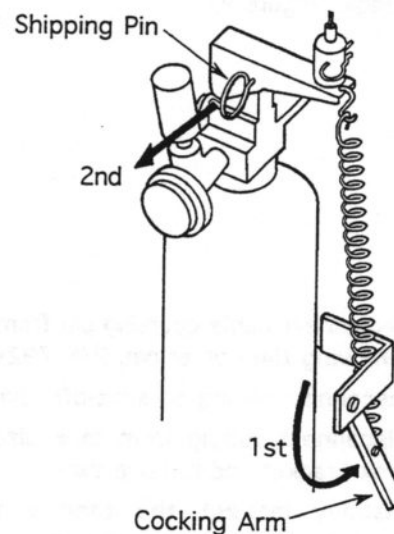

Figure 7
17. Set cocking arm by pulling it down (Figure 7).